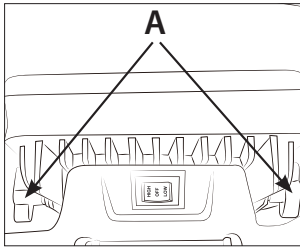

FIG. 5A
To adjust the angle of the light body, loosen the Body Angle Adjustment Knob (A), hold the Handle with one hand and adjust the light body with the other hand. (Fig 5A)